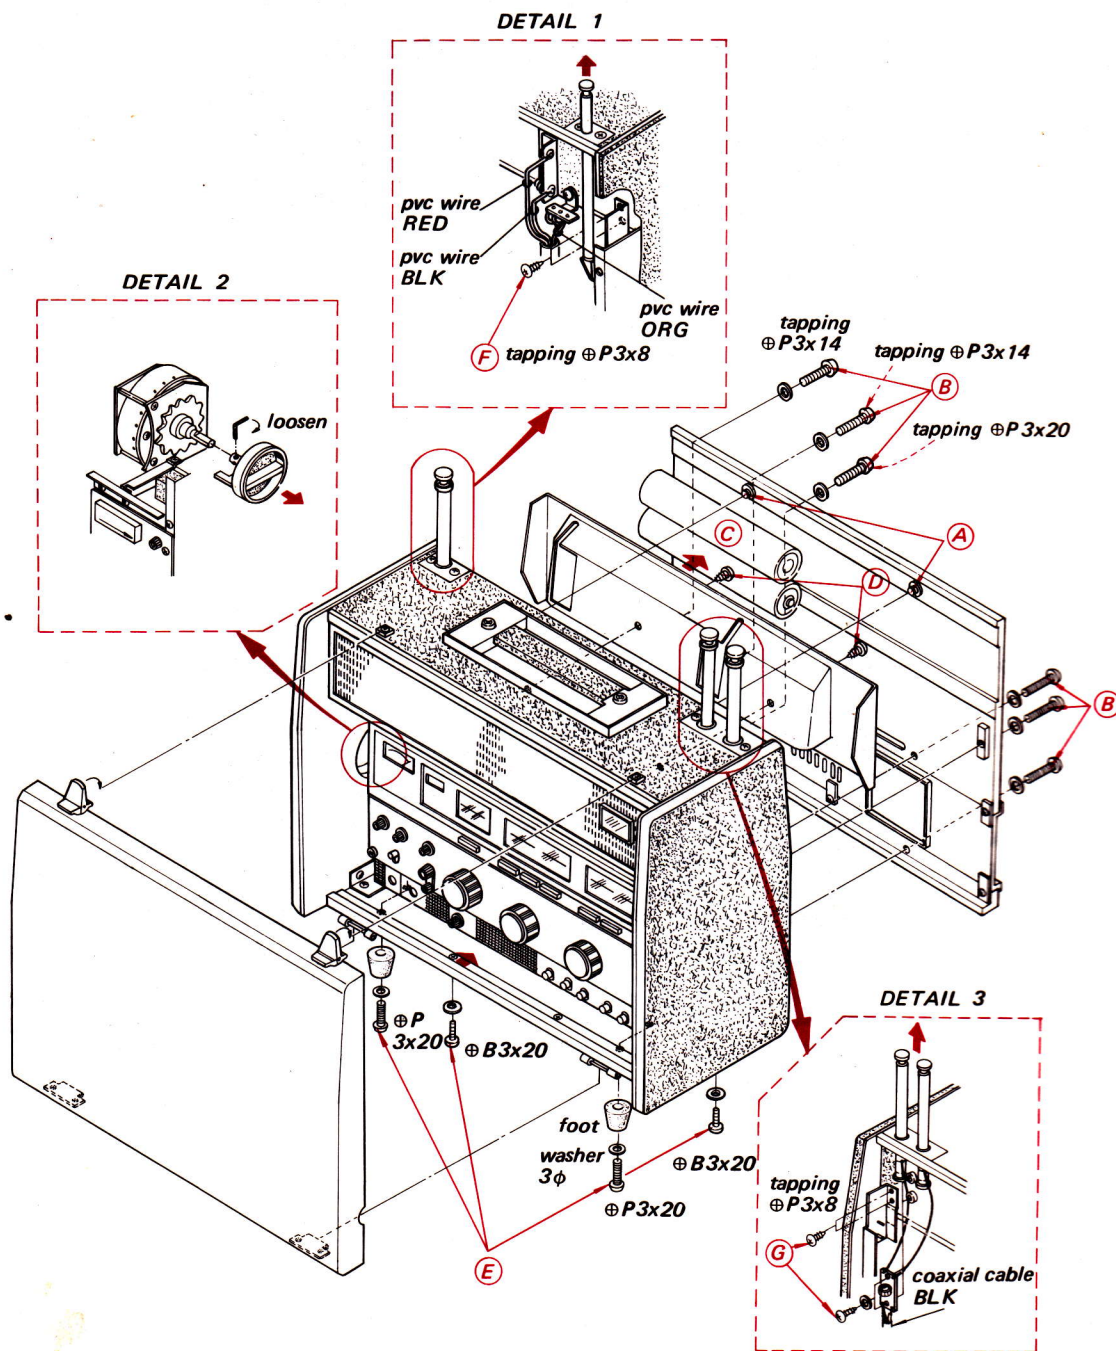

Fig. 2-1
1. Loosen the two rear-cover-holding screws marked **(A)** in Fig. 2-1.
2. Remove the six screws marked **(B)** in Fig. 2-1.
4. Remove the two wood screws marked **(D)** in Fig. 2-1.
1. Remove the four screws marked **(E)** in Fig. 2-1.
3. Remove the six screws marked **(F)** and **(G)** in detail **(1)** and **(3)** of Fig. 2-1.
4. Unsolder the coaxial cable and the three lead wires shown in detail **(1)** and **(3)** of Fig. 2-1.
5. Loosen the three set screws fixing band selector knob shown in detail **(2)** of Fig. 2-1 and pull out the band selector knob.